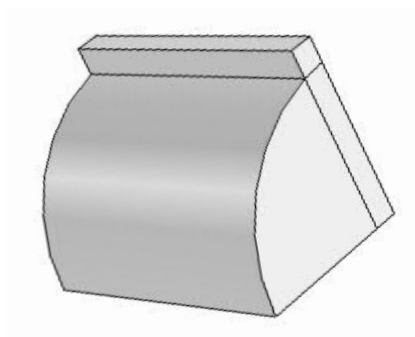

Figure 3: Geometry disposition.
2. Taking symmetry into account, construct 1/8 of the three-dimensional geometry. Consider a cylinder of length  $L = 12''$  and diameter  $D = 6''$ , and a  $0.5''$  high loading block on top with a width  $b = 0.9''$ . It is convenient to set the coordinate system at the center point of the cylinder. Be careful, as the loading patterns have to be centered with the cylinder, otherwise the stress distribution will not be accurate. Figure 3 shows the global disposition of the geometry.